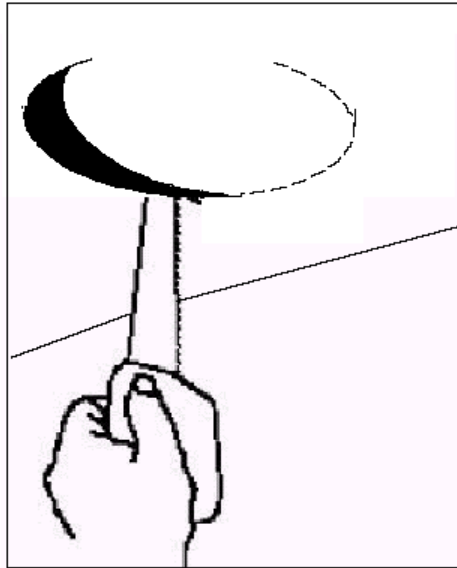

Figure 21
- c) Cut out the ceiling material using an appropriate cutting tool (Figure 21)